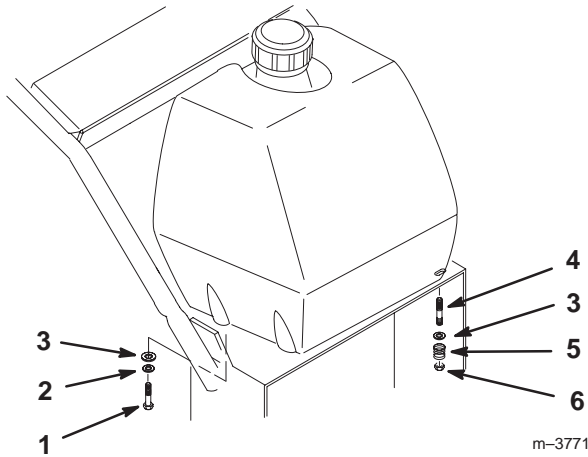

Figure 13
- Align the fuel tank to the top of the rear frame, and secure the right side of the fuel tank with 2 bolts (5/16 x 3/4 in.), 2 lock washers (5/16 in.), and 2 washers (5/16 in.) (Fig. 13).
- Secure the fuel tank studs to the frame with 2 washers (5/16 in.), 2 springs, and 2 locknuts (5/16 in.) (Fig. 13).